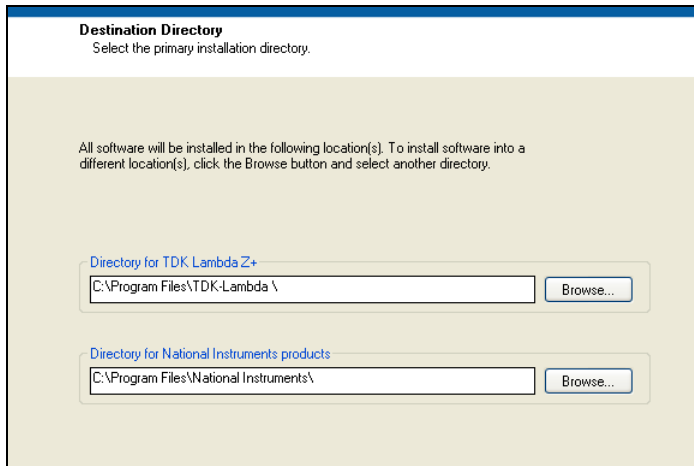

Fig 3
4. Select directory for installation. Refer to Fig 3